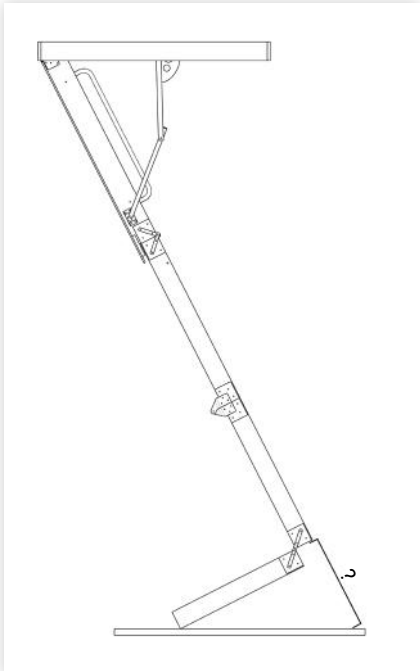

figure 11
1. With the top and middle sections of the ladder open and the bottom section tucked in behind, measure the distance from the bottom of the middle section, to the floor at the same angle as the ladder (figure 11). Do this on both sides.
2. Once you have determined the length of '?' (figure 11) transfer these measurements to the front of each side of the bottom section of the ladder. Mark the cut off back from these points at the same angle as the treads.